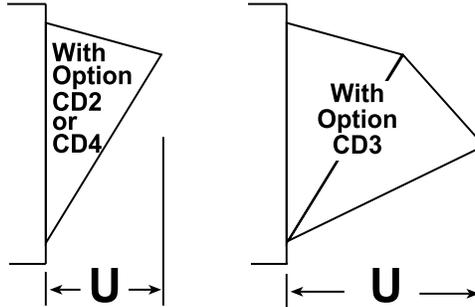

Figure 5. Downturn Nozzle Length (Refer to Table 8)
Application-specific downturn nozzle kits require four-point suspension. Follow the instructions provided with the kit to install. The additional length of the nozzle beyond the front of the unit is shown in **Figure 5** and listed in **Table 8**.
*See **Figure 5**.